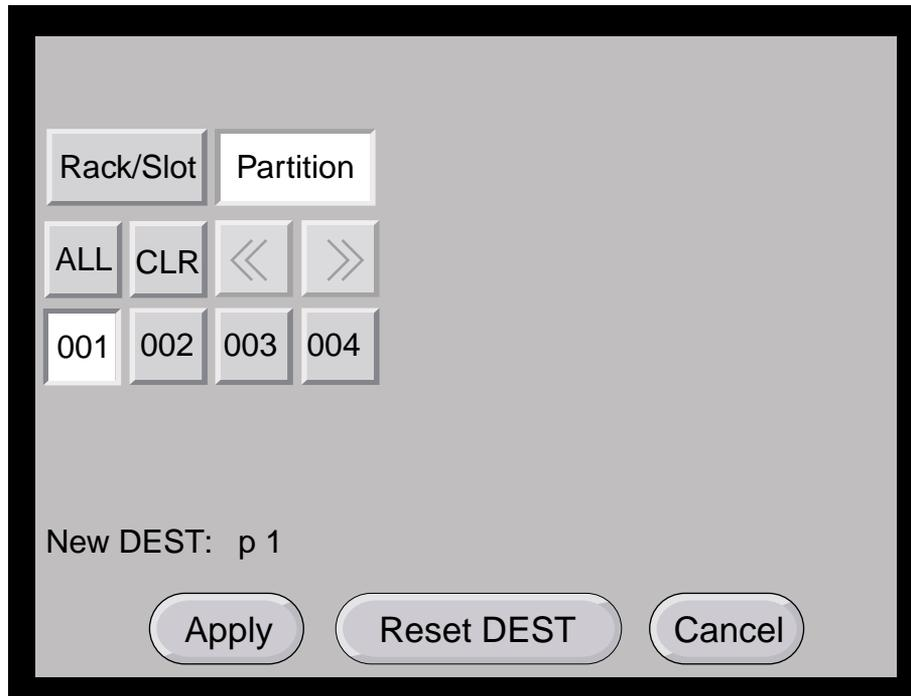

Figure 4-21 Selecting an Individual Partition
6. You can select all partitions by selecting **ALL** from the partition selection window, or you can select a single or multiple partitions by selecting the individual partition numbers. Figure 4-21 shows the selection of partition **001**.